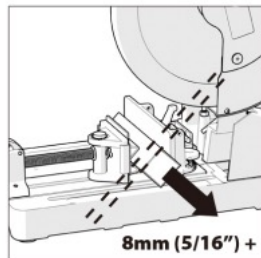

Fig. 12
- CAUTION: The minimum length of cut piece must be 8 mm (5/16 inch) or more longer to avoid the blade falling out of the blade slot and causing any potential danger. (Fig.12).